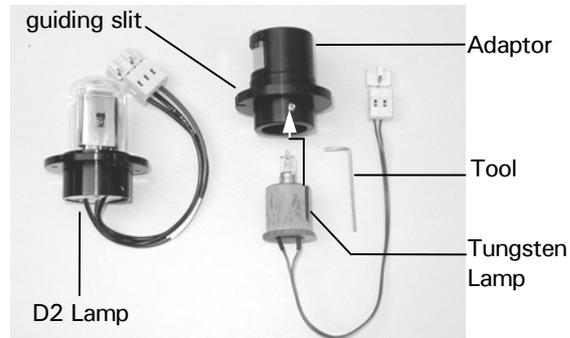

FIGURE 5-19. D2 Lamp/Tungsten Lamp Assembly
- a) Unplug the 2 pin connector of the lamp, (FIGURE 5-19), loosen the pin screw in the socket and pull out the Tungsten Lamp).
- b) When installing a new lamp, make sure that it is correctly seated in the guiding slit, (FIGURE 5-19) and tighten the pin screw.